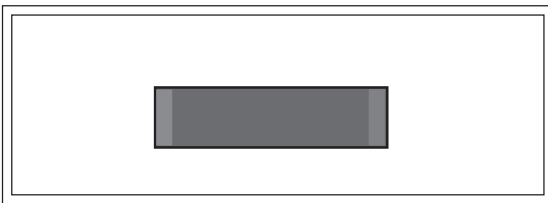

FIGURE 3-2: DATASONDE 4 CAP
- 1 DS4 cap (see figure 3-2, on the previous pages)